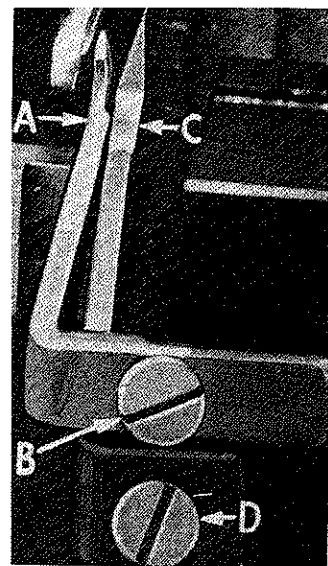

Fig. 5
Set rear needle guard (A, Fig. 5) as high as possible, without interfering with either lower spreader or lower looper, or movement of lower knife holder, but still in position to deflect needles forward .002 to .004 inch (.051 to .102 mm). Screw (B) is used to set the rear needle guard. Make sure there is no interference between the rear needle guard and lower spreader or lower looper.
Assemble front needle guard (C, Fig. 5). When lower spreader or lower looper is springing needles off rear guard, set the front needle guard as close as possible to needles without touching. Screw (D) is used to adjust and set front needle guard. After this setting, make sure there is no interference between the needle guards and differential feed dog.